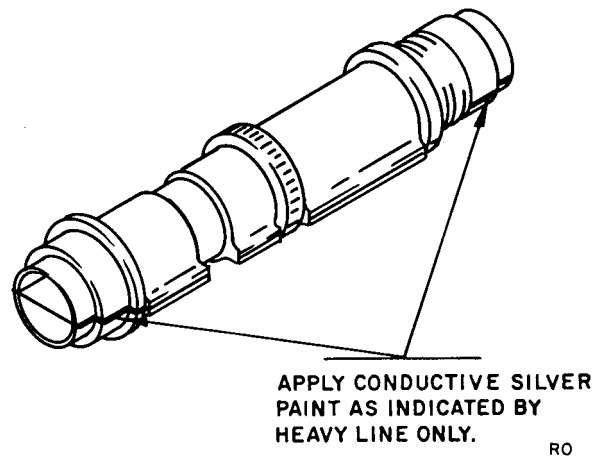

Figure 11 Application of Silver Paint to Choke Joint of Center Section
13. Refer to Figure 11. Apply conductive silver to seams of choke joint on ends of center section.